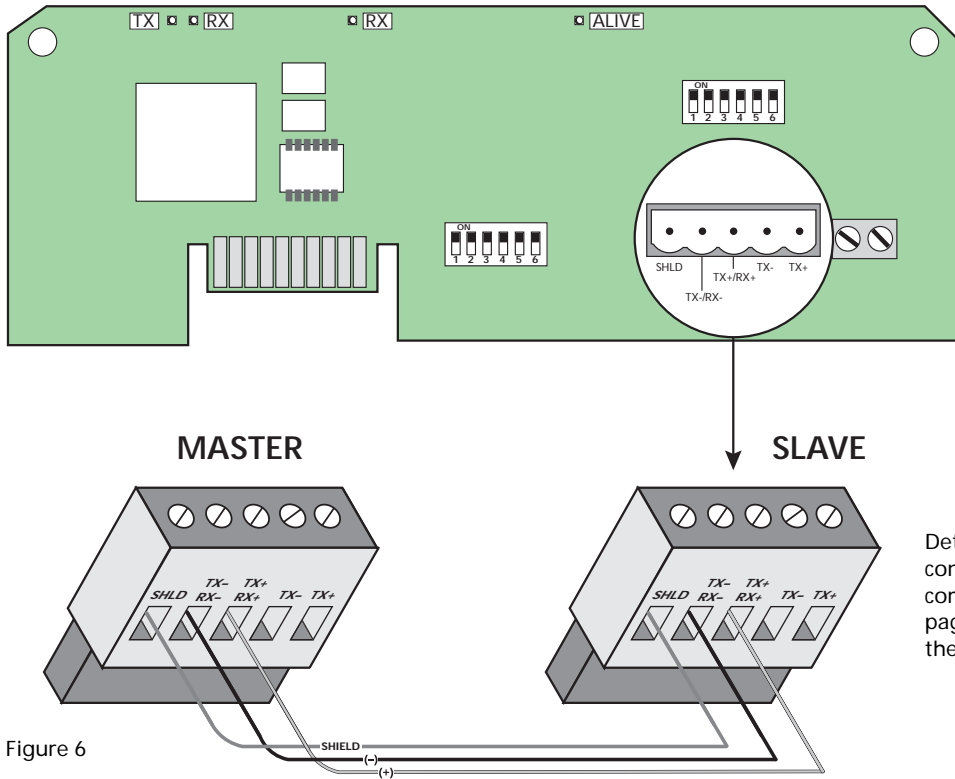
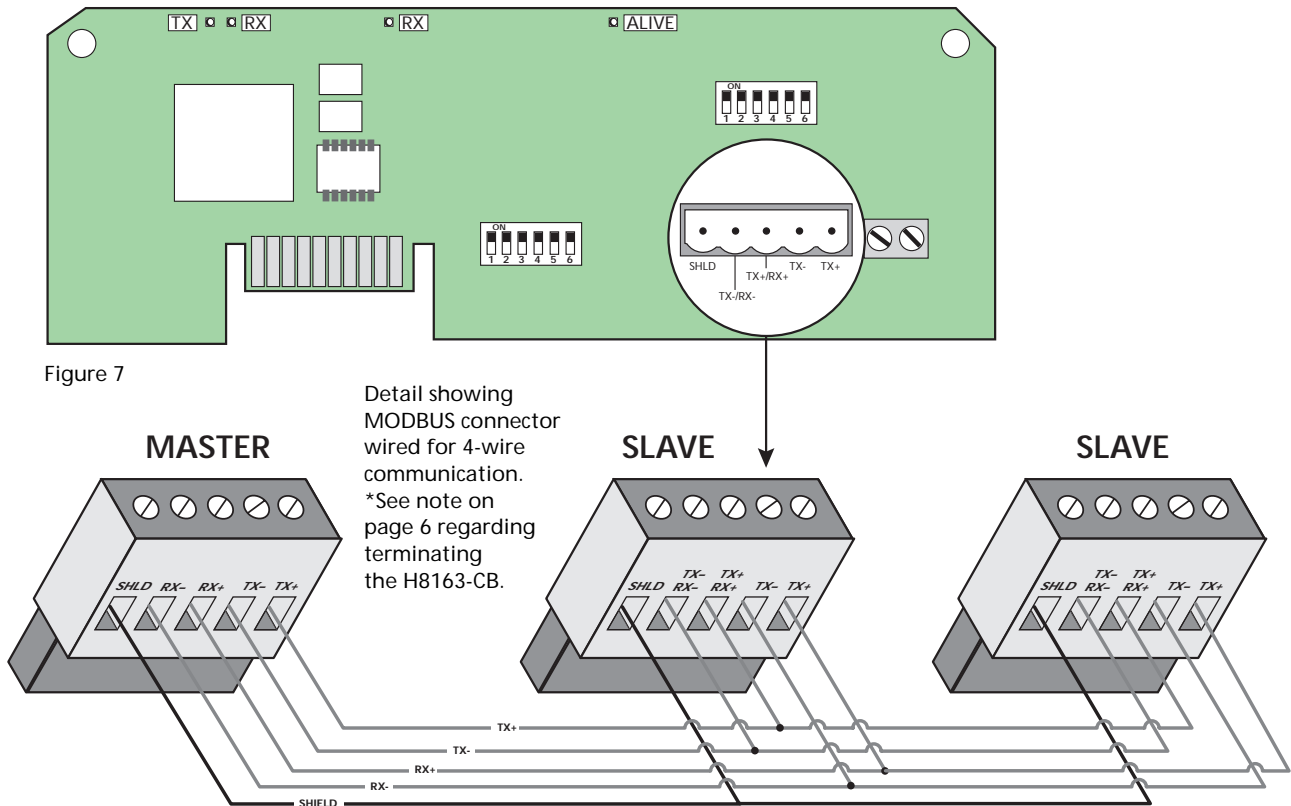

Figure 6
Figure 7
Insert the RS-485 connector into these terminals. See Figure 6 on page 5 and Figure 7 on page 5 for instructions on wiring the connector for 2-wire or 4-wire communications.
1. Wire the communications connector as shown in Figure 6 (2-wire communication) or Figure 7 (4-wire communication).